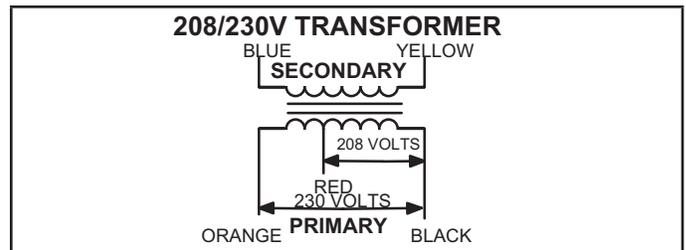

FIGURE 3
T43 is a single line voltage to 24VAC and ties into T1. See unit diagram. T43 is mounted in the control box. The transformer supplies power to control circuits (through T1). The transformer is rated at 70VA and is protected by a 3.5 amp circuit breaker (CB8). The 208/230 (Y) voltage transformers use primary voltage taps as shown in figure 3, while 460 (G) and 575 (J) voltage transformers use a single primary voltage tap.
All use a single line voltage to 24VAC transformer mounted in the control box. Transformer supplies power to control circuits in the unit. The transformer is rated at 92VA and is protected by a 6 amp circuit breaker (CB8). The 208/230 (Y) voltage transformers use primary voltage taps as shown in FIGURE 3, while 460 (G) and 575 (J) voltage transformers use a single primary voltage tap.